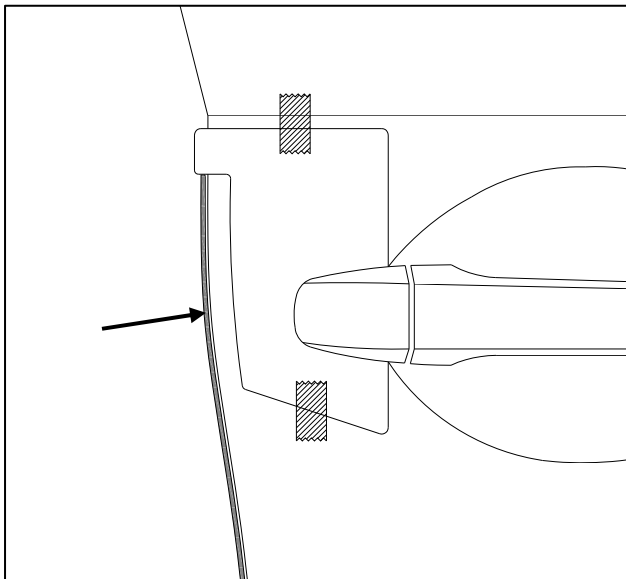

Fig. 1-3
- (d) Align top edge of DEG (labeled Front Passenger) with lower edge of template alignment notch as shown. **NOTE:** The top of the front passenger DEG has a cutout relief located approximately 1.5 inches from the end (Arrow). (Fig 1-3).